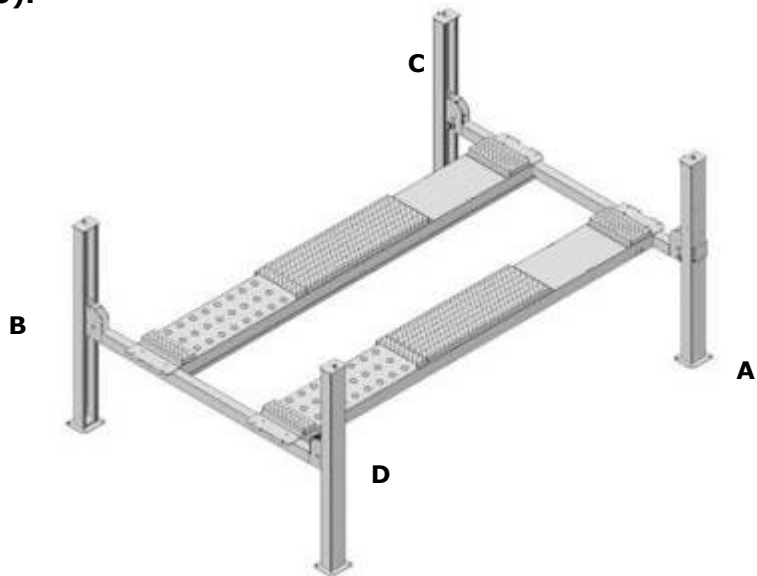

Fig. 23
1. Pass through the cables from the platform to the columns according to the number of the cables (**See Fig. 23**).